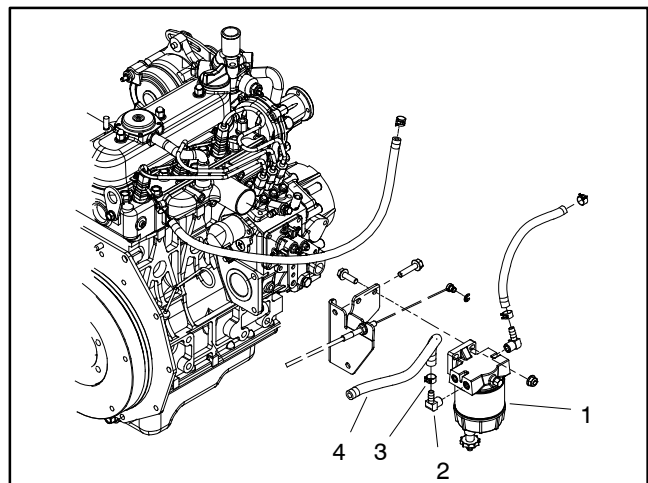

Figure 39
3. Disconnect fuel hose (pump discharge) from the inlet fitting on the fuel/water separator (Fig. 39).
A. For machines with serial numbers below 280000000, the amount of fuel collected in the graduated cylinder should be approximately **11.8 fl oz (350 ml) after thirty (30) seconds.**
B. For machines with serial numbers above 280000000, the amount of fuel collected in the graduated cylinder should be approximately **16 fl oz (475 ml) after fifteen (15) seconds.**